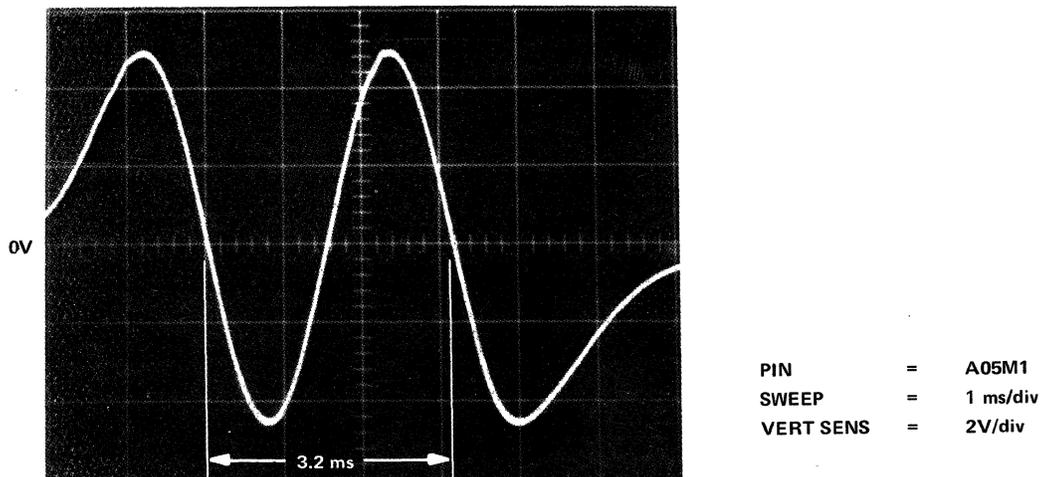

Figure 5-13 Velocity Amplitude Waveform
- Observe A05M1 for a scope display as illustrated in Figure 5-13. The duration of the center cycle must equal  $3.2 \pm .05$  ms.